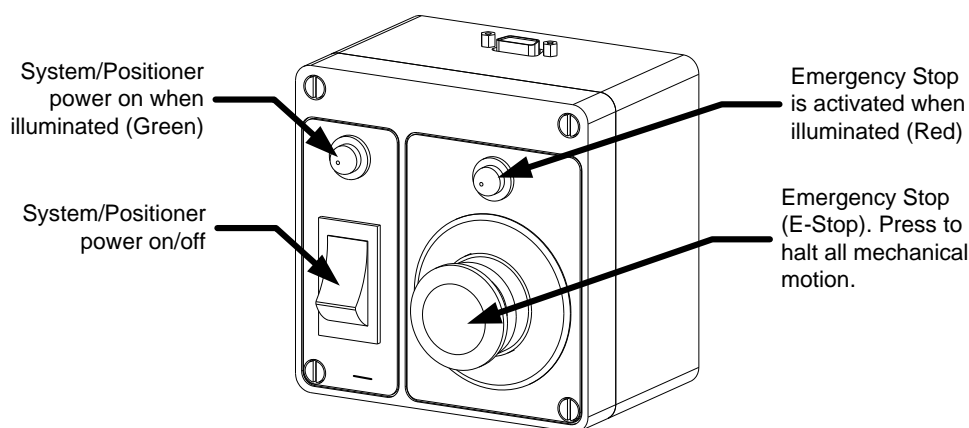

Figure 13. Power Box in Control Room
3. Power up the system. On the remote power panel (located in Control Room), hold the toggle switch in the **ON** ("I") position for approximately 1 second until the green power lamp illuminates (**Figure 13**).